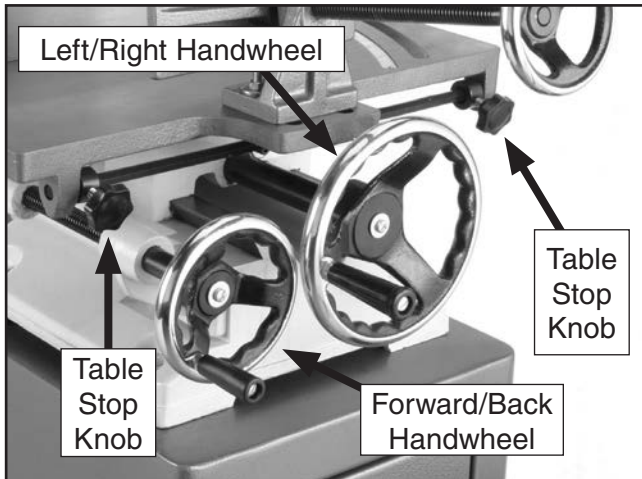

Figure 15. Table controls.
1. Move the forward/back handwheel (**Figure 15**) to move the table toward or away from the operator.
2. Move the left/right handwheel (**Figure 15**) to move the table horizontally.
3. Use the table stop knobs (**Figure 15**) to control how far the table moves to the left and right.